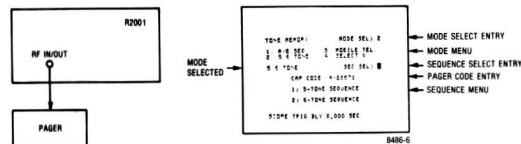

Figure 4-10. Test Setup for 5/6 Tone Pager with CRT Display
Test 5/6 Tone Pager decode and alert function (Figure 4-10).
- Connect the pager as shown in Figure 4-10 and set the MODULATION switch as desired to activate the pager under test.